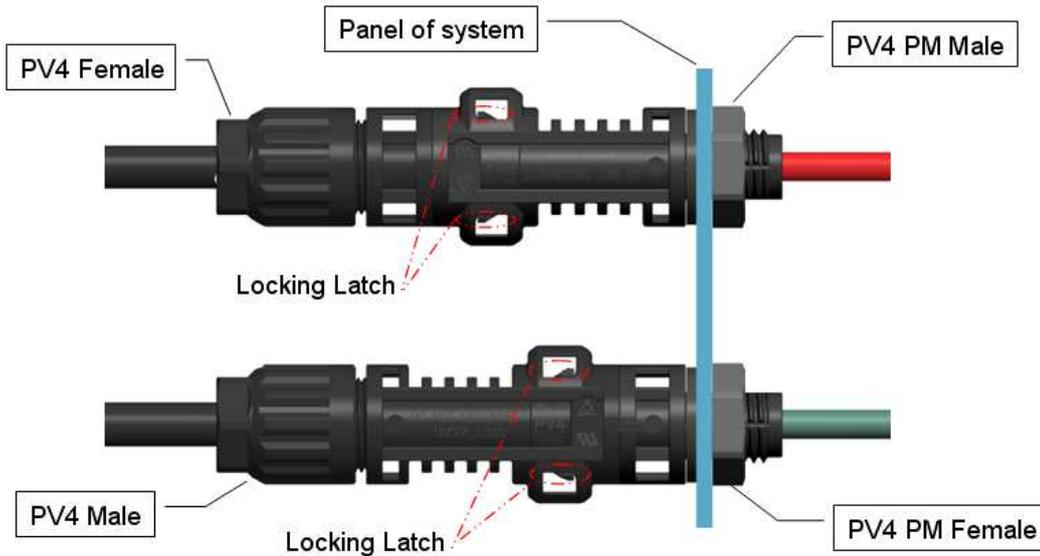

Figure 9
- ♦ Mating of the connectors is done by pushing the connectors together until a clear audible click is heard. This clear audible clicking sound must be heard to ensure the connectors have been mated correctly. When the connectors are correctly connected the locking latches should be flush against the edge of the connector (see **Figure 9**).